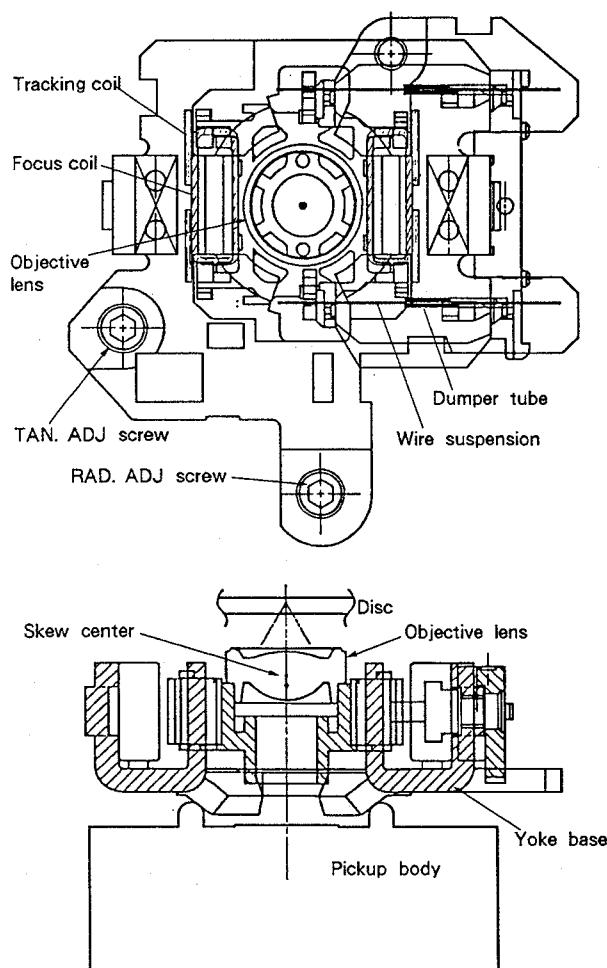

Fig. 9-2 Structure of actuator
##### (Fig. 9-2)
**(6) Clean playback by skew adjustment in both tangential and radial directions (Fig. 9-2)**